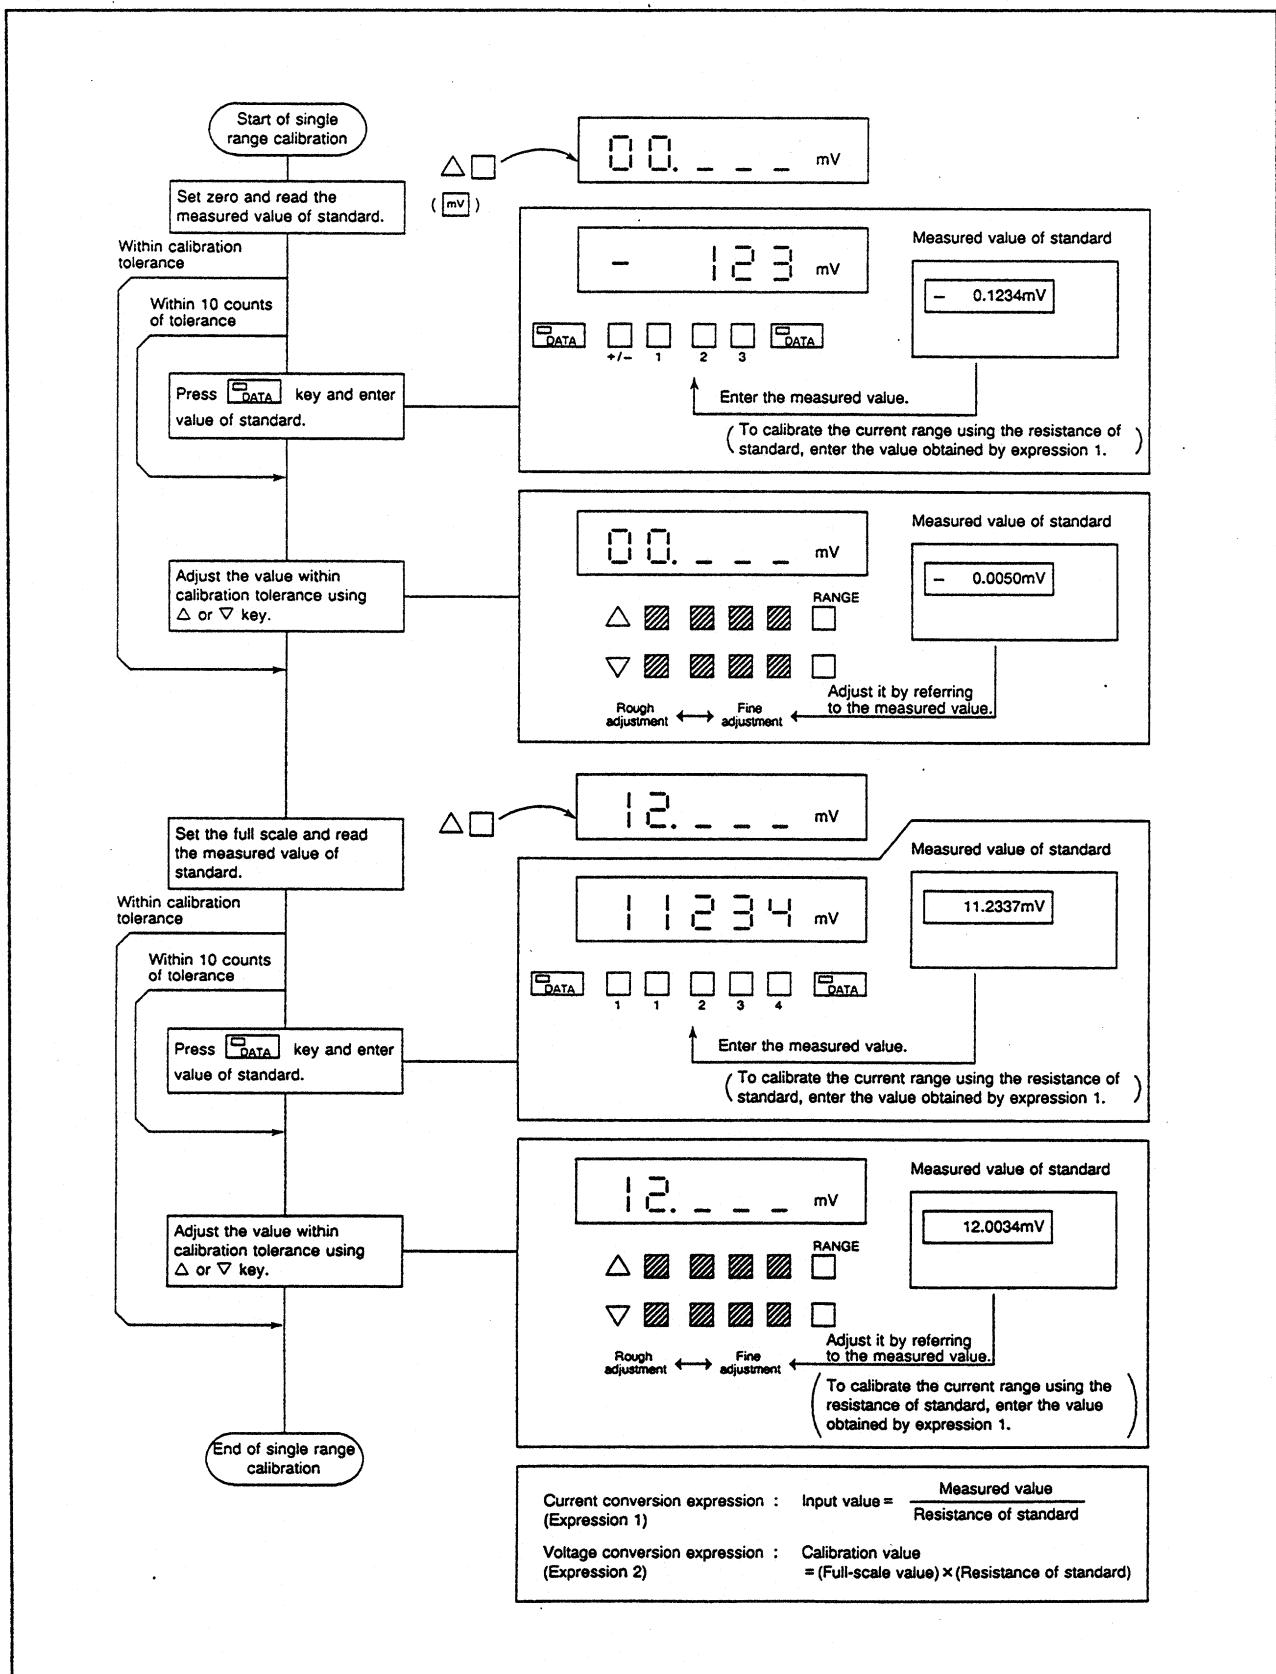

Figure 5-2 Calibration of A Single Range using R6142
- ⑤ Select the calibration range using the Δ or ∇ key, and set the standard as defined on Table 5-5.
- ⑥ Press the **[OPERATE]** key to light its LED. (OPERATE ON)
- ⑦ Calibrate and check the parameters using the Δ or ∇ key and **[+]** and **[]** keys in the sequence of "+ Zero" and "+ Full scale as shown in Figures 5-2 and 5-3.
- ⑧ Press the **[OPERATE]** key to turn off its LED. (OPERATE OFF)
- ⑨ Repeat Steps ⑤ to ⑧ to calibrate the range between the setup functions.
- ⑩ Turn off the EXT CAL switch on the rear panel, and press the **[STEP]** key.
- ⑤ Select the calibration range using the Δ or ∇ key, and set the standard as defined on Table 5-7.
- ⑥ Press the  OPERATE key to light its LED. (OPERATE ON)
- ⑦ Calibrate and check the parameters using the Δ or ∇ key and  + and  keys in the sequence of "+ Zero" and "+ Full scale" as shown in Figures 5-2 and 5-3.
- ⑧ Press the  OPERATE key to turn off its LED. (OPERATE OFF)
- ⑩ Turn off the EXT CAL switch on the rear panel, and press the  STEP key.